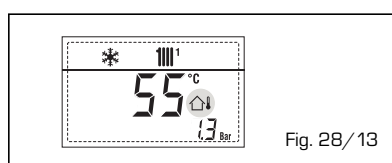

Fig. 28/13
**- INTERVENTO TERMOSTATO SICUREZZA PRIMA ZONA MISCELATA "ALL 20" (fig. 28/14)**